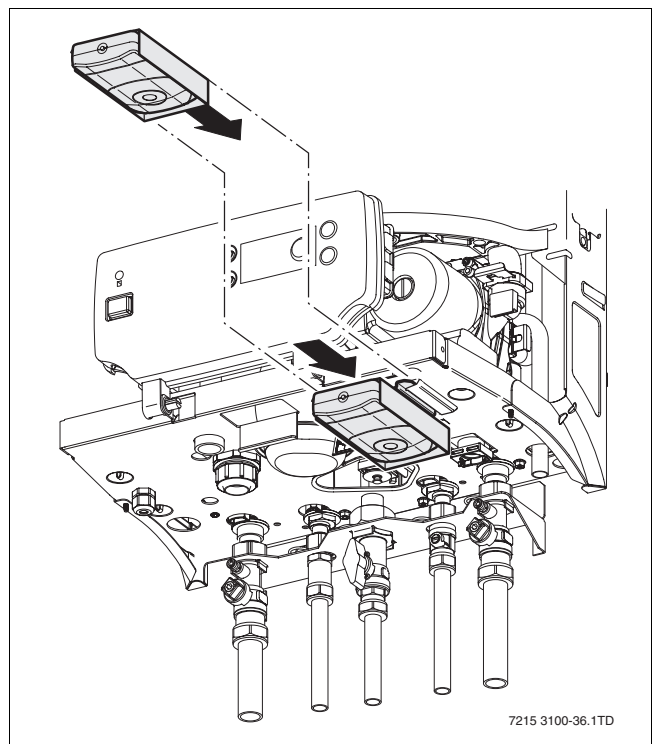

Fig. 36 Hang bracket under boiler
- Slide the bracket in the guide rails on the underside of the boiler (→ fig. 36).